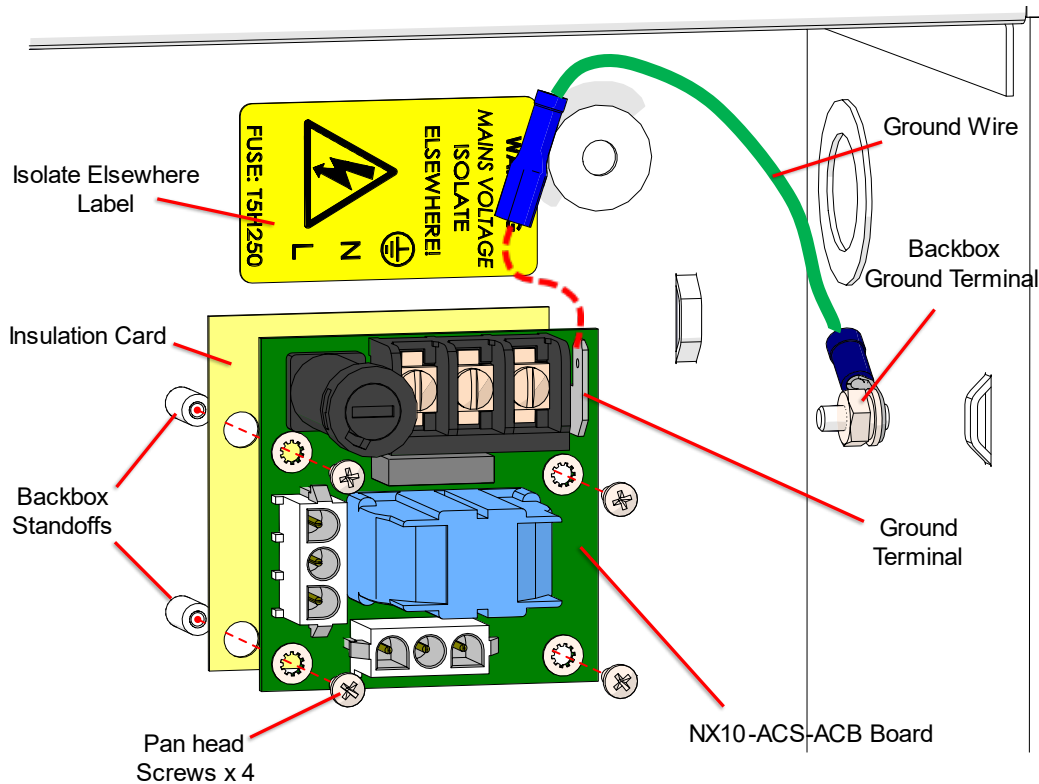

Figure 11 - NX10-ACS-ACB Board Installation
2. Make sure that the Fiberglass Laminated Insulation Card is in position on the backbox standoffs (Figure 11).
3. Place the NX10-ACS-ACB in position on the backbox standoffs and install the four (4) supplied panhead screws.